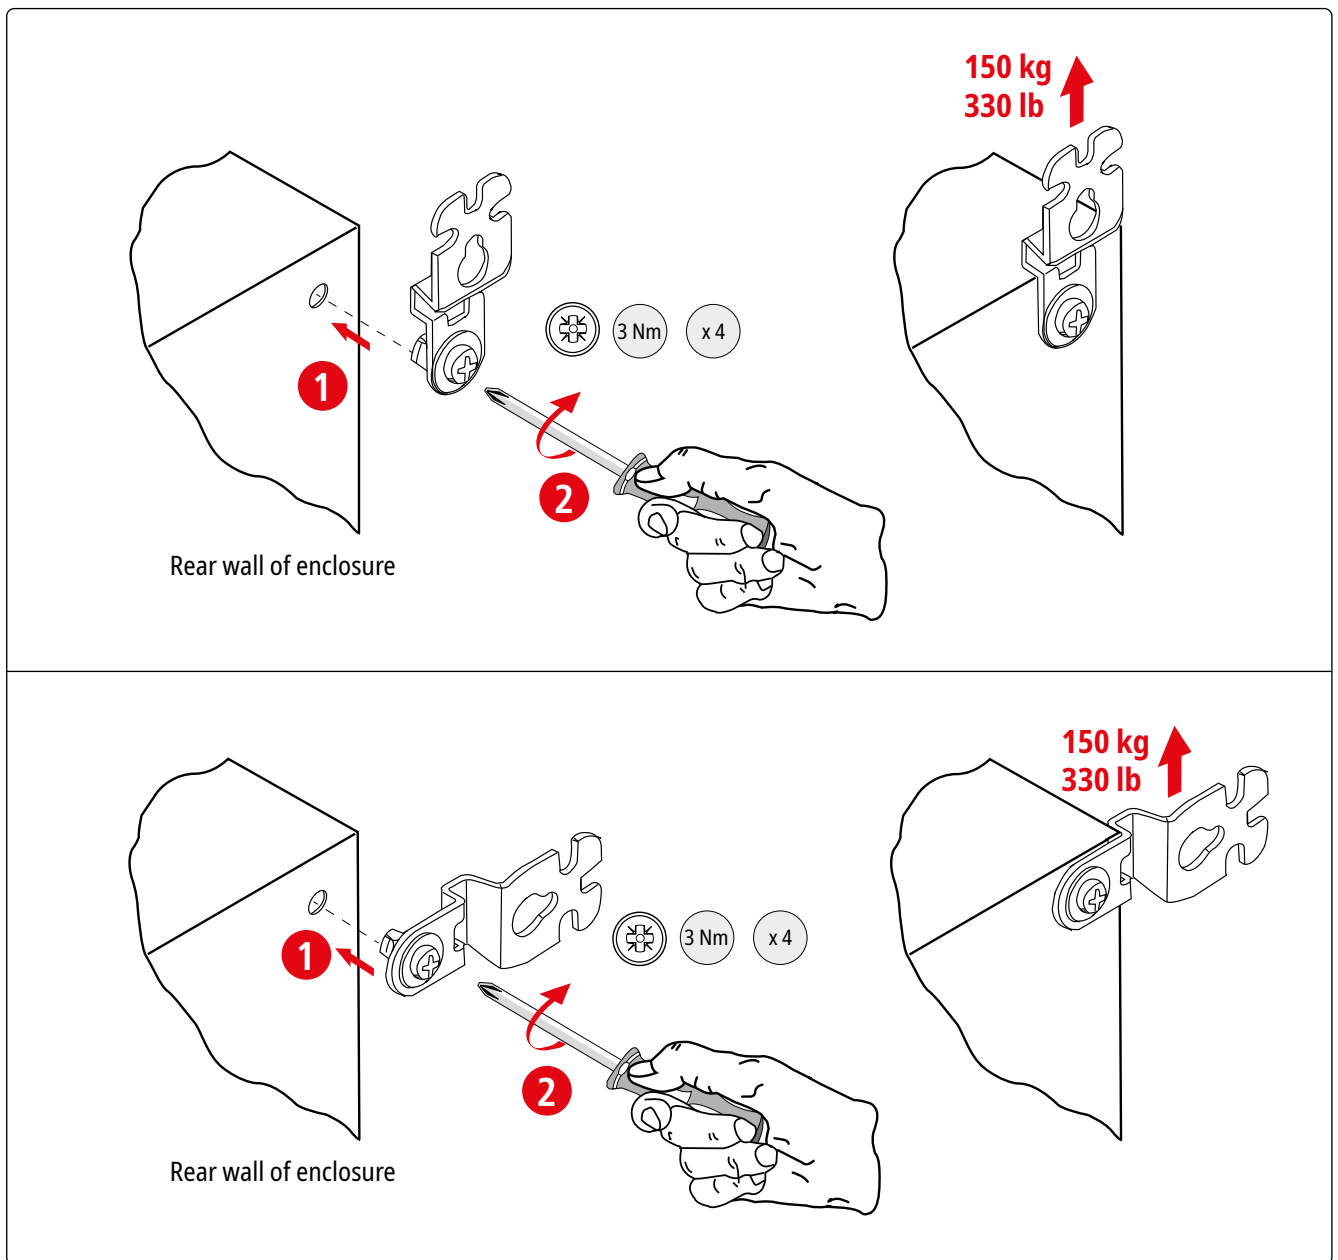

Figure 4 Rear wall of enclosure
Mounting on the wall is possible using the wall mounting fixing lugs included (see Fig. 4).
- ➔ Then, the fixing lugs are inserted into the relevant boreholes and screwed tight (see Fig. 4).